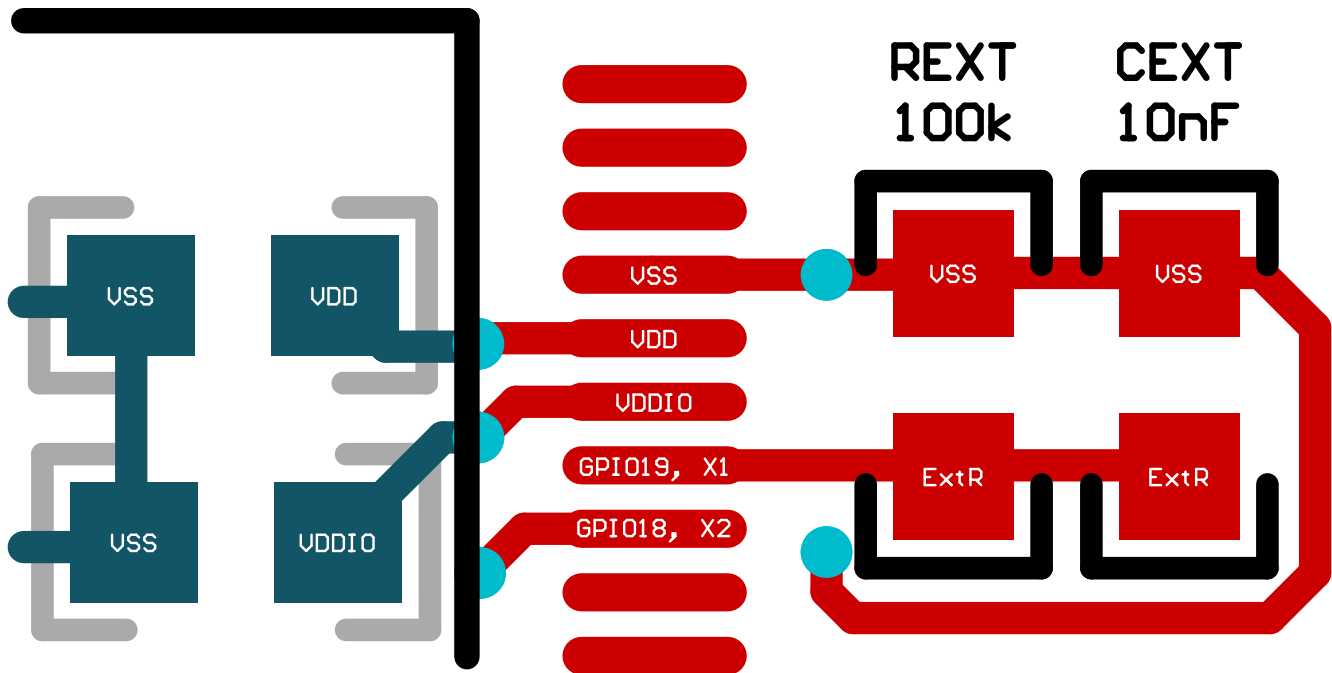

Figure 6-21. ExtR PCB Layout Example
- VSS guard trace is recommended around the ExtR trace as shown in Figure 6-21